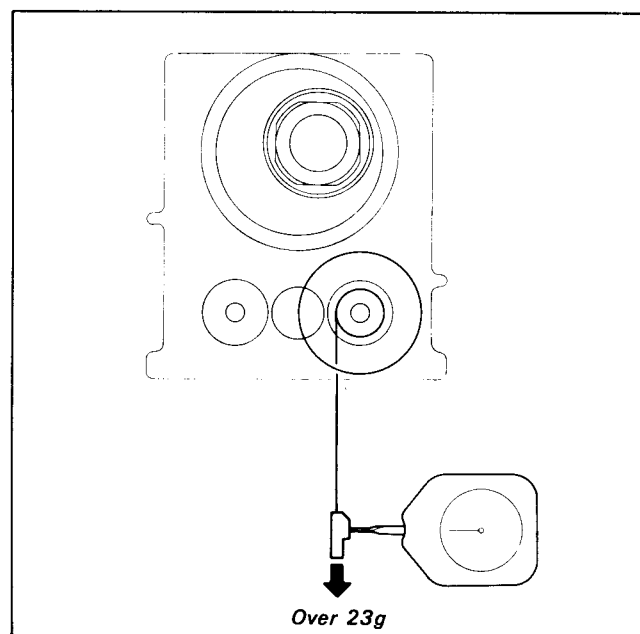

Fig. 8-62.
- 3) Pull the dial tension gauge (Ref. No. J-6) toward the arrow and check that the value satisfies the required value. (See Fig. 8-62 and 63.)